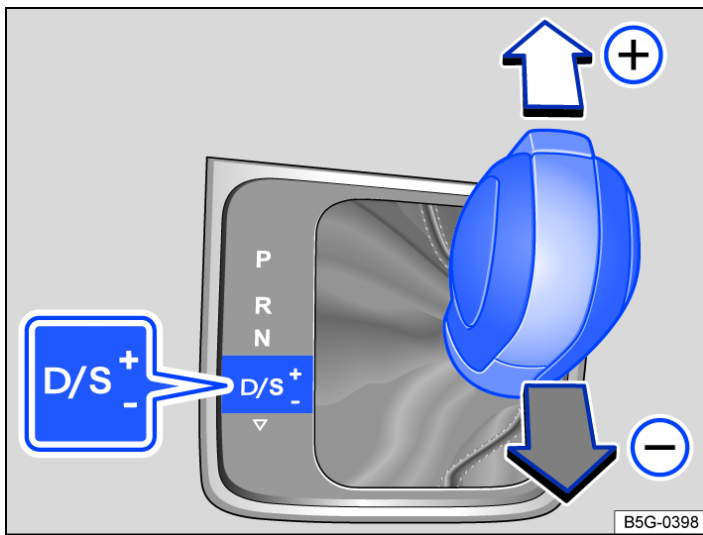

Fig. 1 Selector lever in Tiptronic position(left-hand drive).
- Touch the selector lever forwards  or back  to shift gear up or down → Fig. 1.